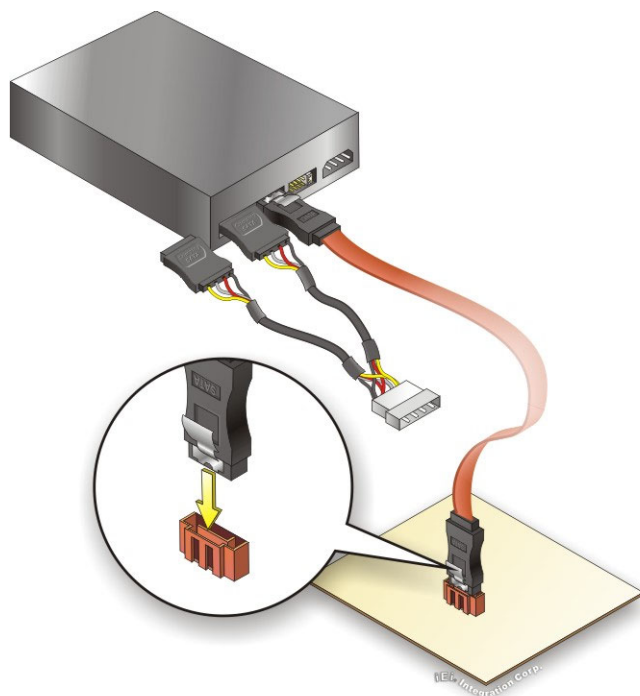

Figure 4-10: SATA Power Drive Connection
Step 3: Connect the cable to the SATA disk. Connect the connector on the other end of the cable to the connector at the back of the SATA drive. See **Figure 4-10**.
Step 4: Connect the SATA power cable. Connect the SATA power connector to the back of the SATA drive. See **Figure 4-10**.